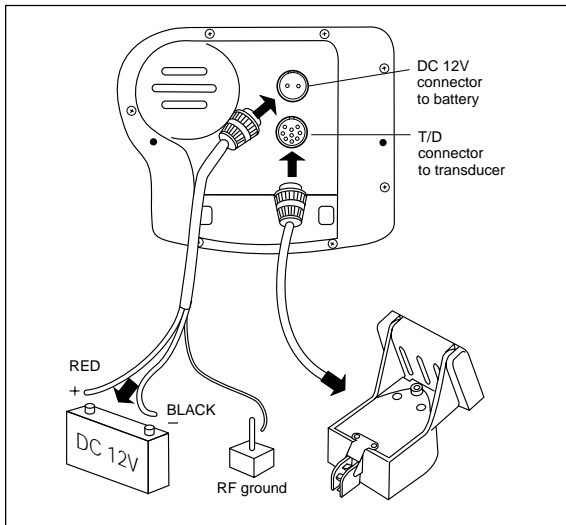

Fig. 2-16
3. It is very important that you connect the power leads correctly. See Fig. 2-16. At the power source, connect the **red** wire to the **positive**